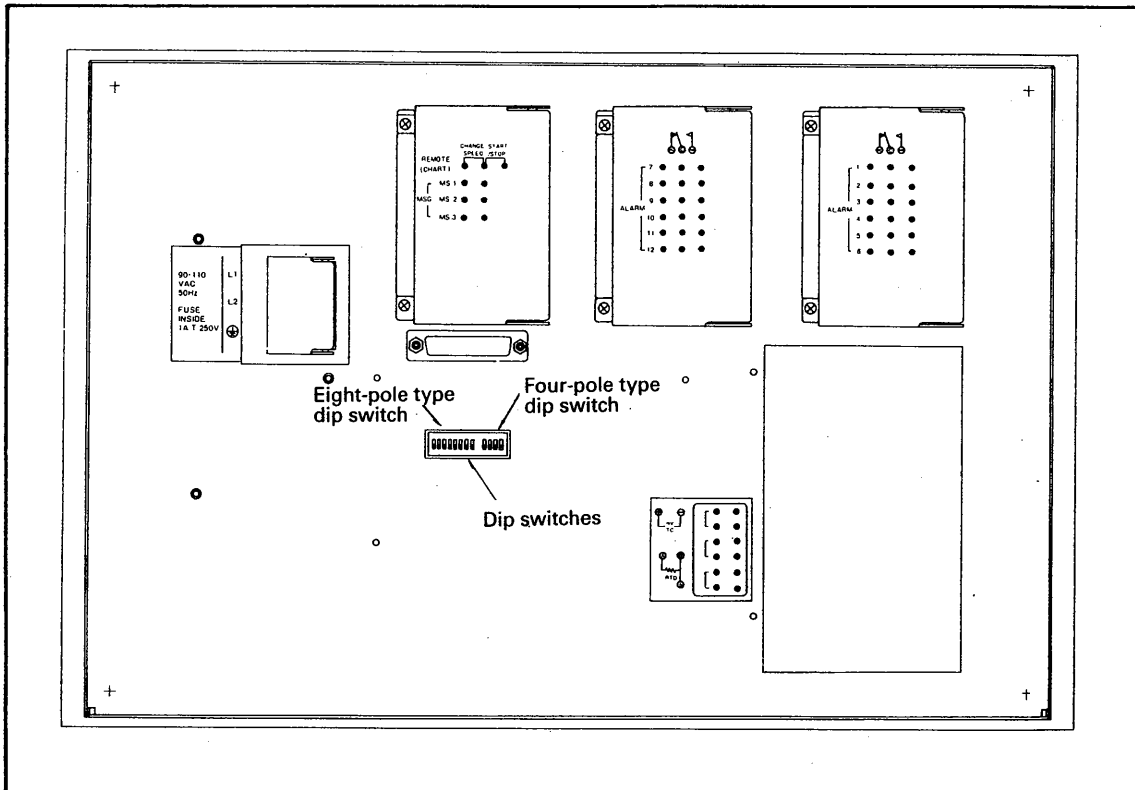

Figure 1-7.  $\mu$ R250 Recorder Rear View.
Figure 1-7 shows the locations of the dip switches.
As shown in Figure 1-7, there are two types of dip switch: four-pole type and eight-pole type. Each type of dip switch is used as described in ① and ② below.
① Four-pole type: